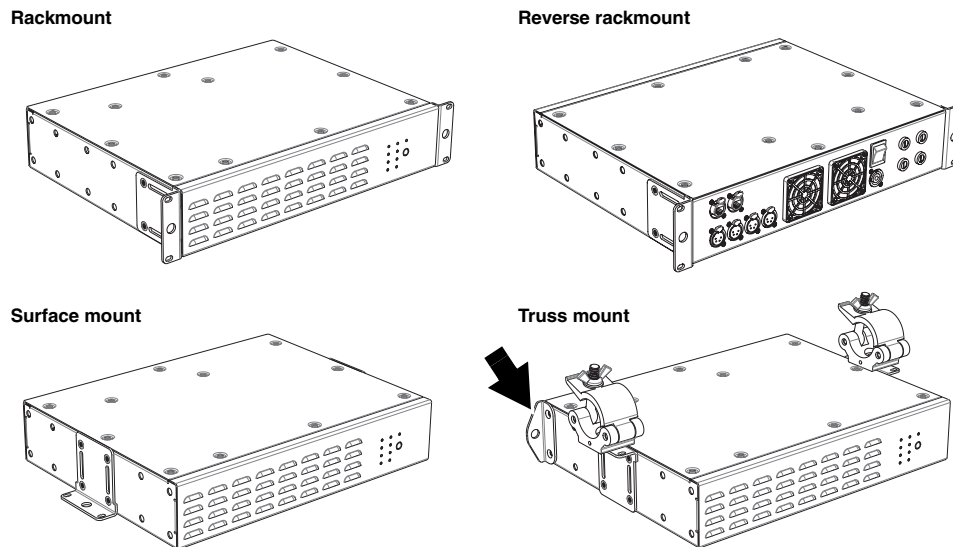

Figure 3: Mounting options
Using the supplied mounting brackets, the P3 PowerPort 1500 can be 19-inch rack-mounted, fastened to a surface or clamped to a truss using rigging clamps that are approved for the supported weight. Figure 3 shows the possible mounting options. The mounting brackets can be fastened to the front, center or rear of the housing as shown in Figure 3.
2. Install the supplied clamp mounting brackets in the center of each side of the P3 PowerPort 1500 by fastening four screws per bracket securely into four holes on each side of the housing as shown in Figure 3.
4. Install the supplied safety wire attachment bracket on one corner of the P3 PowerPort 1500 as shown in Figure 3 (arrowed) by fastening two of the supplied screws securely through the bracket and into two holes in the side of the housing.